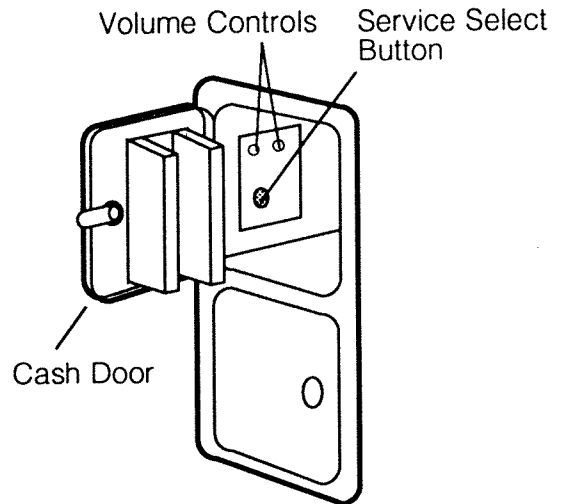

Fig. 4
- Press and hold the service select button (located inside the front door— see Fig. 4).